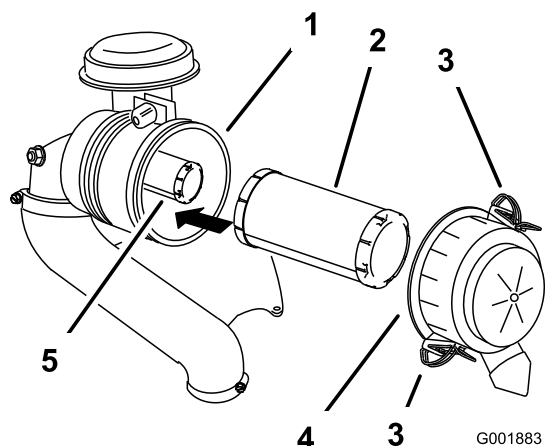

Figure 36
3. Release the latches on the air cleaner and pull the air-cleaner cover off the air-cleaner body (Figure 36).
5. Gently slide the primary filter out of the air-cleaner body (Figure 36).
2. If you are replacing the inner filter, carefully slide it into the filter body (Figure 36).
3. Carefully slide the primary filter over the safety filter (Figure 36).
4. Install the air-cleaner cover and secure the latches (Figure 36).